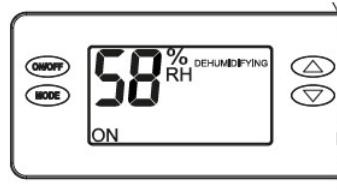

Fig. 4 – Dehumidifying
4. If the Relative Humidity (RH) is above the setting, the compressor turns on to dehumidify the space. The word DEHUMIDIFYING appears when the compressor is turned on (Fig. 4).